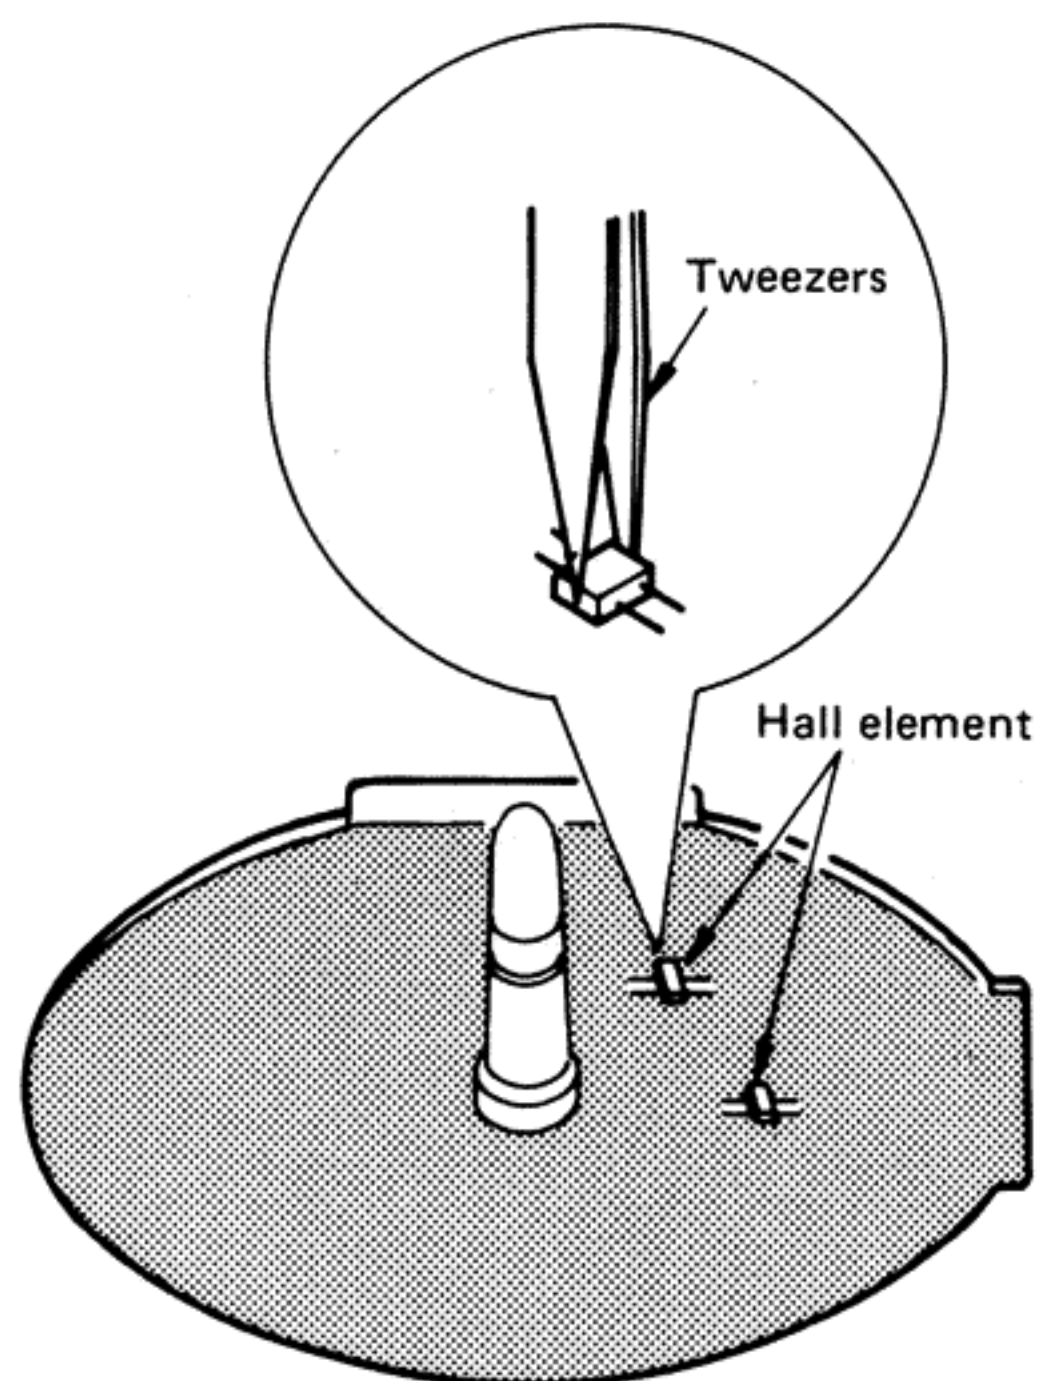

Fig. 11
3. Hold the Hall element with a tweezers and remove it while touching the soldering iron to the terminal. (Fig. 11)